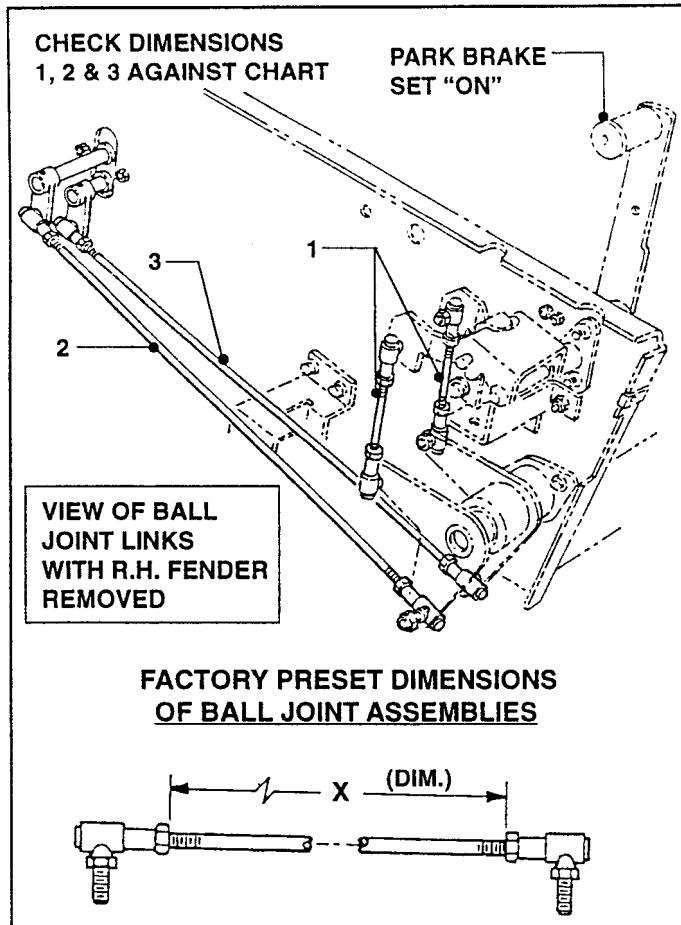

FIGURE 5.7
- Check the dimensions of the Ball Joint Links as shown in Figure 5.7.